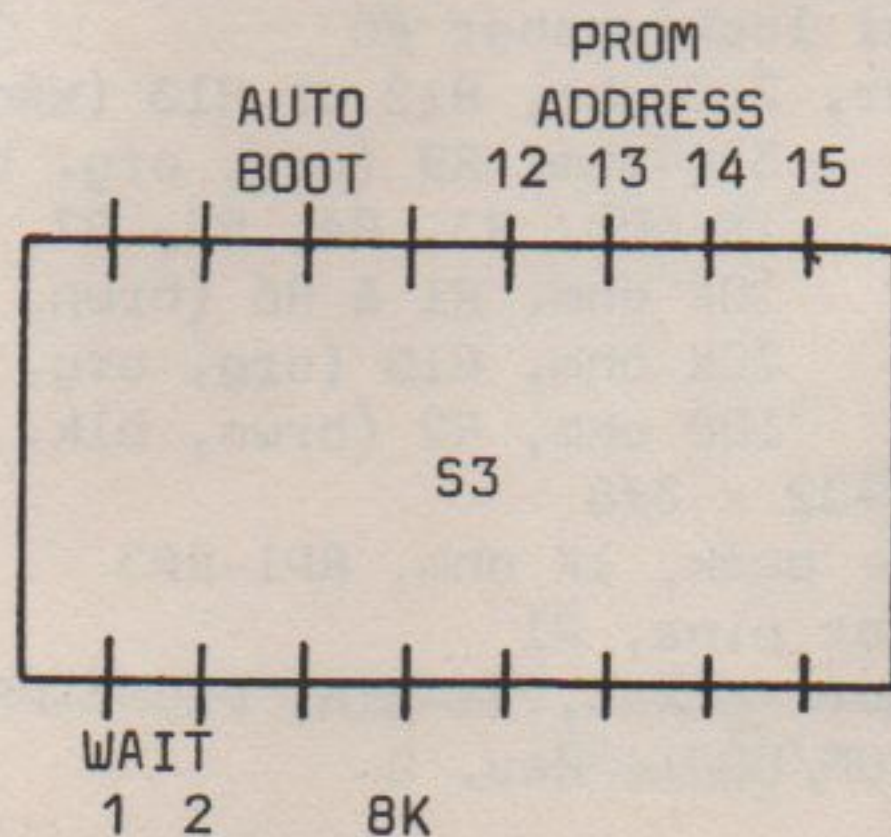

FIGURE 3. S3 Dip Plug Diagram
1. Install 2708 PROMs into the sockets. Set the board address and jump address as per PROM and BOOT theory. (See Figure 3. below.)